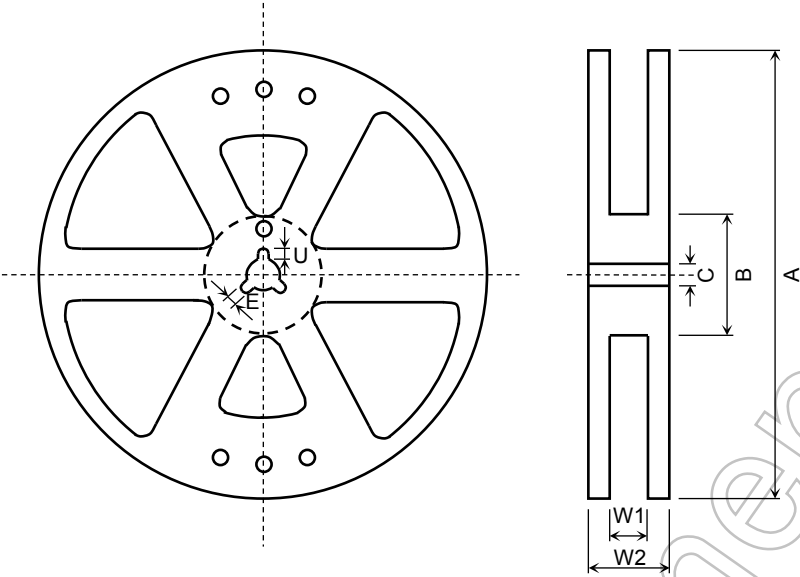

Figure 4 Reel Forms
- (1) Material: Plastic
- (2) Dimensions: The reel dimensions are as shown in Figure 4 and Table 3.